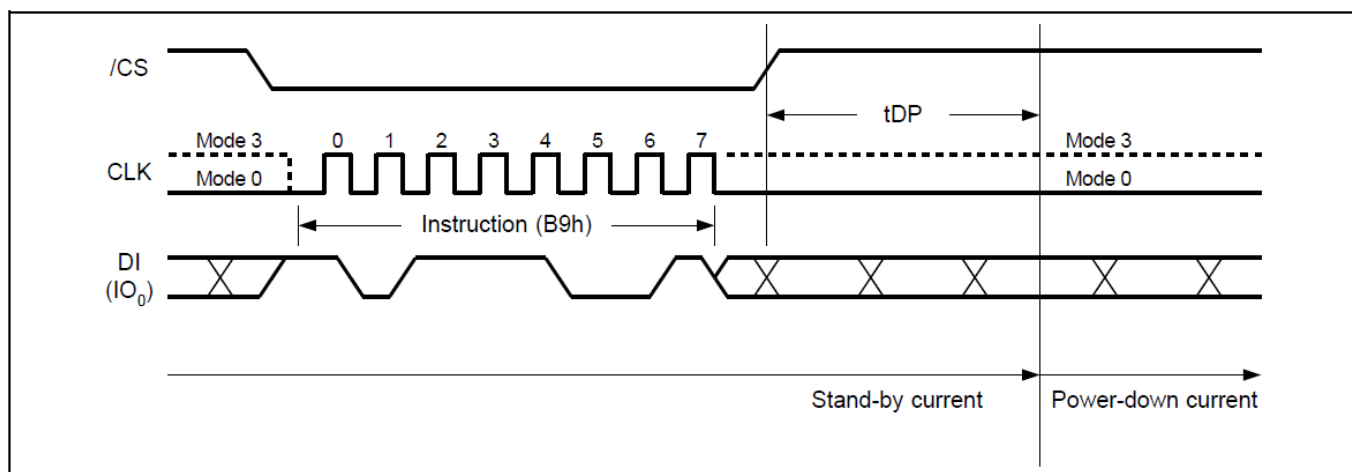

Figure20. Deep Power-Down Sequence Diagram
The Deep Power-Down Mode automatically stops at Power-Down, and the device always in the Standby Mode after Power-Up. The Deep Power-Down command sequence: CS# goes low → sending Deep Power-Down command → CS# goes high. The command sequence is shown in Figure20. CS# must be driven high after the eighth bit of the command code has been latched in; otherwise the Deep Power-Down (DP) command is not executed. As soon as CS# is driven high, it requires a delay of  $t_{DP}$  before the supply current is reduced to IDPD and the Deep Power-Down Mode is entered. Any Deep Power-Down (DP) command, while an Erase, Program or Write cycle is in progress, is rejected without having any effects on the cycle that is in progress.